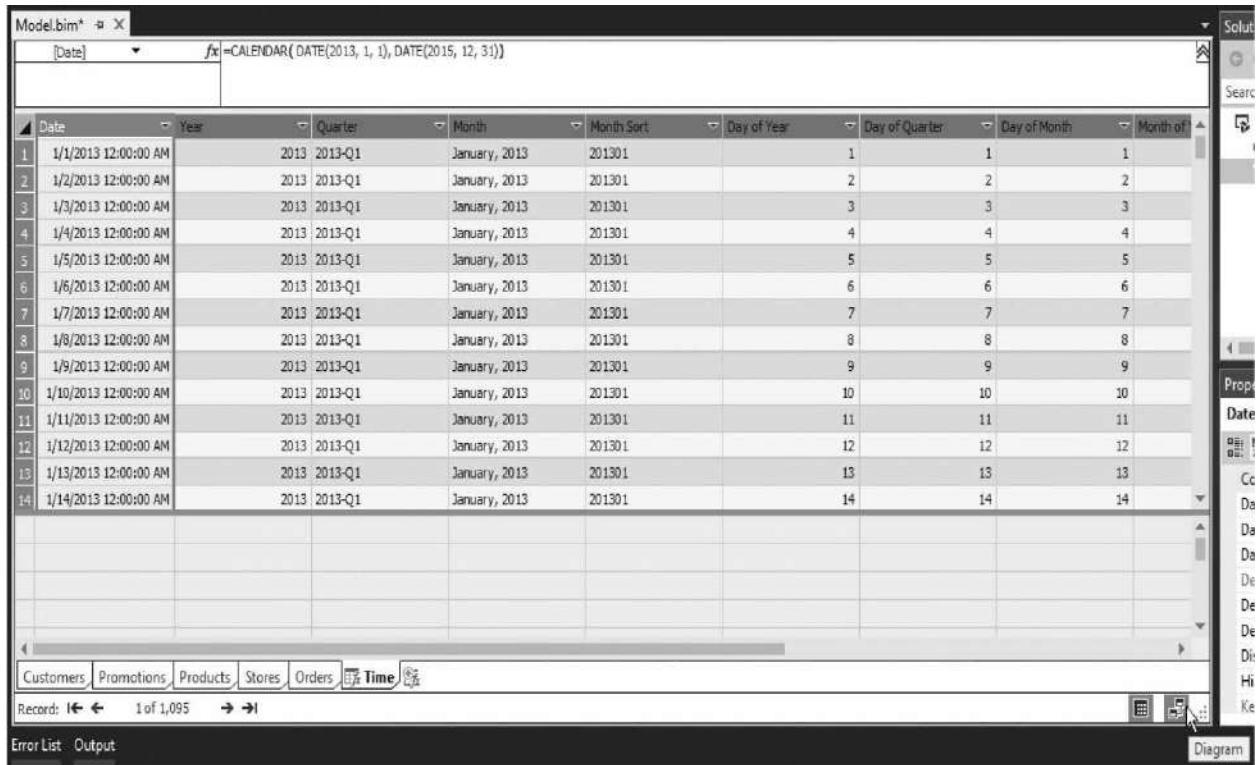

Figure 9-18 Switching to diagram view
1. In the lower-right corner of the design area, click the Diagram button as shown in Figure 9-18. The design area will change from grid view to diagram view.